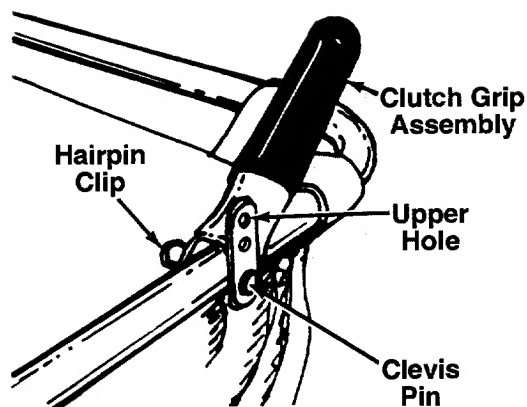
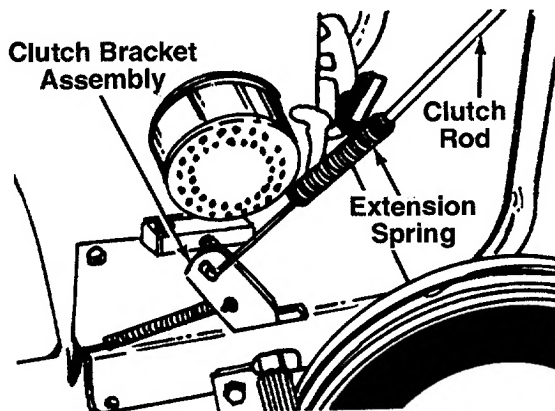

FIGURE 9.
FIGURE 11.
1. Assemble the clutch grip to the left hand side of upper handle. Secure in place with clevis pin and hairpin clip. See figure 9. Head of clevis pin should be to the outside of handle.
3. Hook top (hooked end) of clutch rod into upper hole on clutch grip. See figure 9. Hook spring into clutch bracket assembly. See figure 11. Adjust nut on the clutch rod so that when the clutch grip is all the way up, there is no slack in the spring.